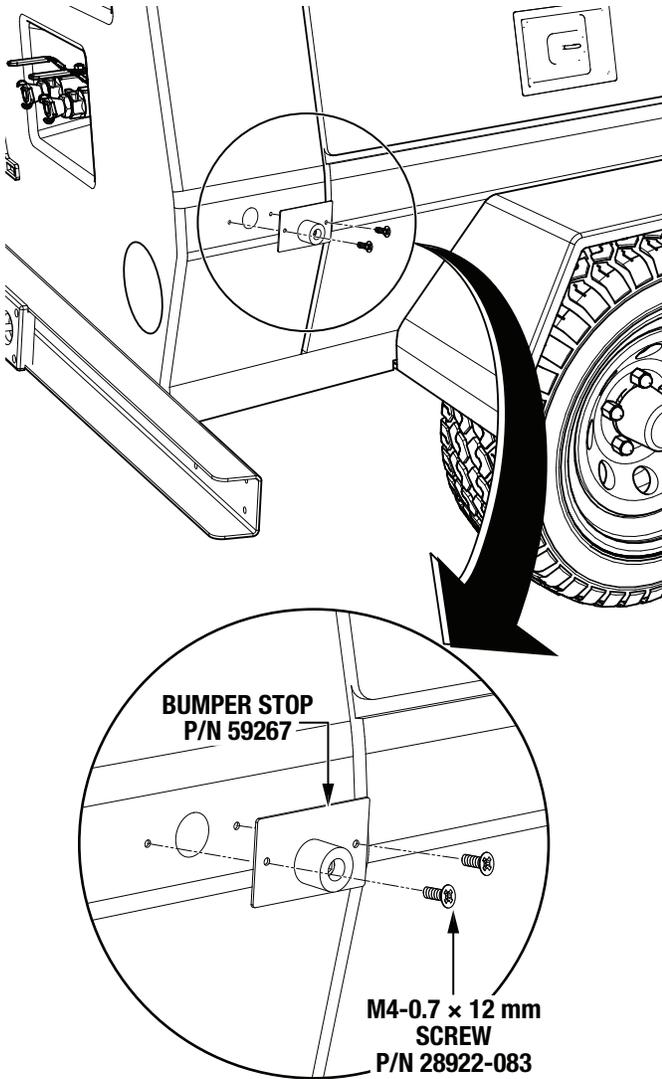

Figure 12. Bumper Stop Installation
1. On the fuel tank side of the air compressor, secure the bumper stop (P/N 59267) to the frame where the rear marker light was removed earlier with two M4-0.7 x 12 mm screws (P/N 28922-083). See Figure 12.